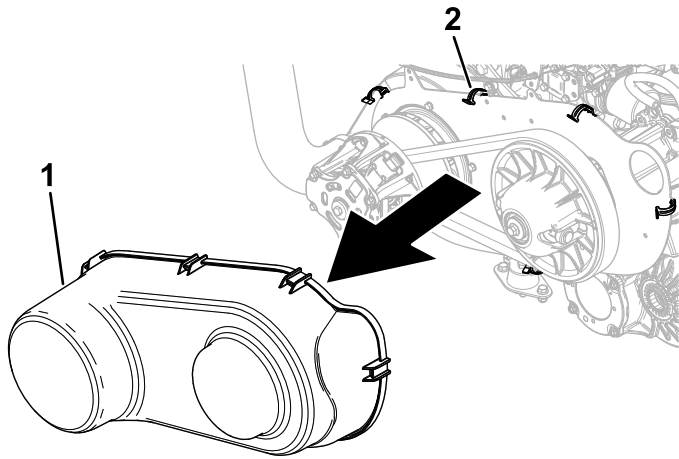

Figure 91
5. Unlatch the 6 spring clips securing the belt cover and remove the cover (Figure 91).
8. Install the belt cover (Figure 91).
10. Install the belt cover (Figure 91).